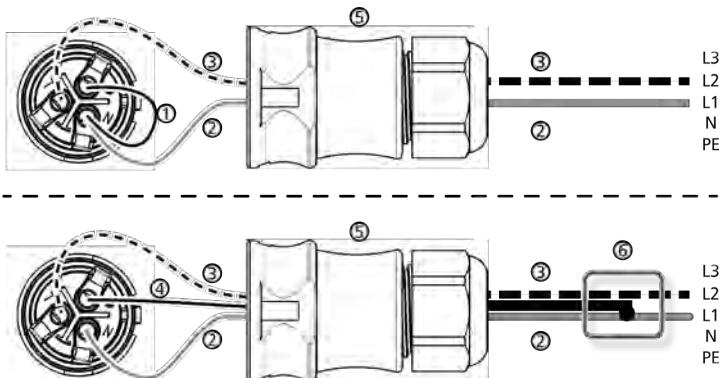

Fig. 6: Connection of N and PE in the AC plug (above) or junction box (below)
- *N and L are connected between the L1 – L2 external conductors at the inverter side. See ② and ③ in Fig. 6.*
Fig. 6 shows an example of an inverter-side connection between L1 and PE:
- *Fig. 6 as above.*
2. Connect one of the two connected phases to PE at the inverter side. Make this connection inside the AC plug or use an external junction box, as shown in Fig. 6.